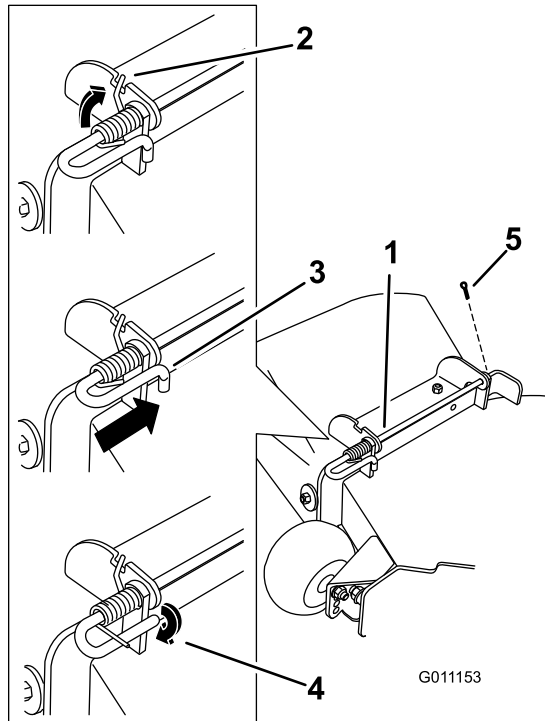

Figure 71
- Lift the long end of the spring and place it into the notch on the deflector assembly bracket (Figure 71).
- Secure the rod and spring assembly by twisting it so the short end of the rod can be placed behind the front bracket welded to the deck (Figure 71).
- Install the cotter pin (Figure 71).